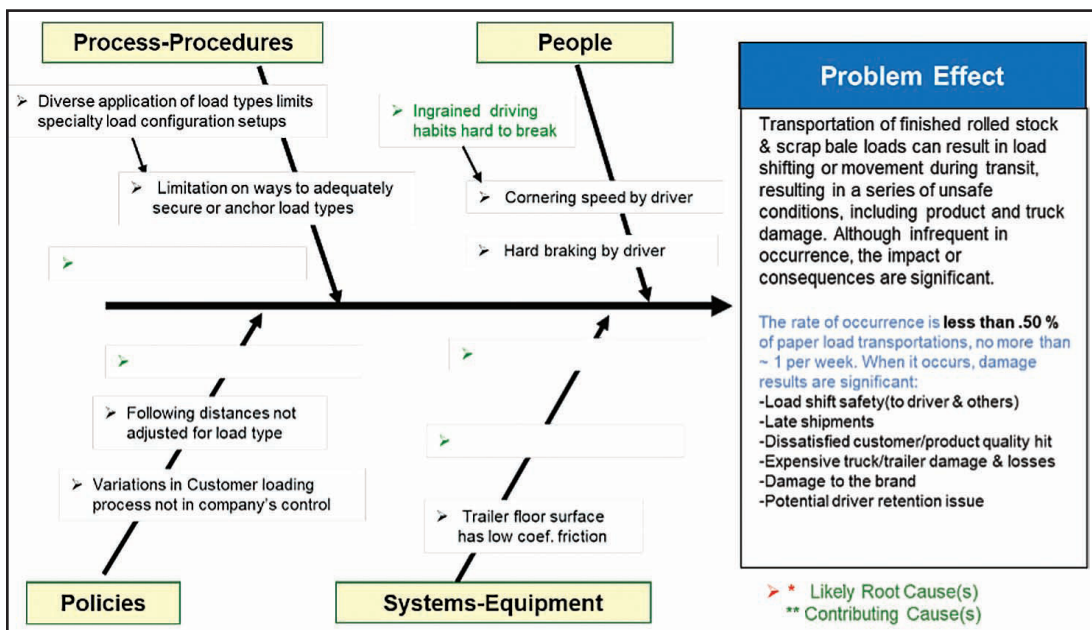

Figure 4
6. Perform a "sanity check" with peer SMEs and stakeholders to validate completeness of root-cause analysis and conclusions (see Fig. 4).